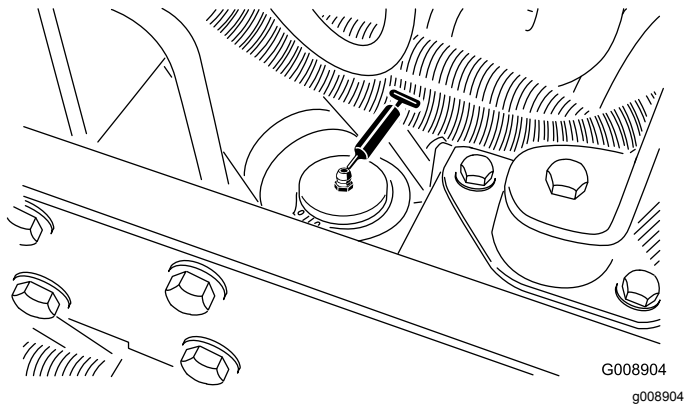

Figure 37
- Neutral-adjustment mechanism (Figure 37)
- Steering cylinder (Figure 37)